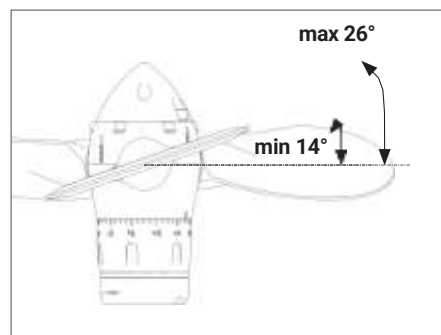

FIG. 26 Standard setting range
- Each adjustment notch corresponds to a change in blade angle of 0.25° and causes an increase or decrease of approximately 40-50 rpm of the engine at the same boat speed (this value is purely indicative and depends on the specifications of the engine installed). The standard adjustment range is from a minimum of 14° to a maximum of 26° (Fig. 26). Pitch adjustment within a range from a minimum of 20° to a maximum of 32° can be also available for special applications.